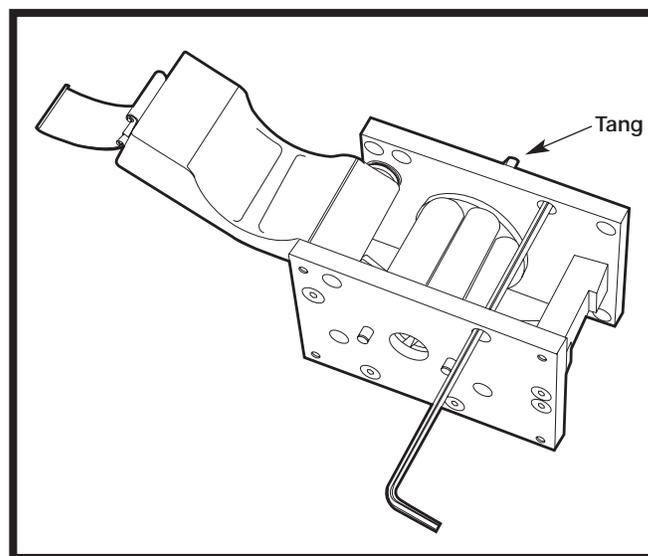

Figure 2, Pump Mounting
1. Connect the pump head to the drive by aligning the tang on the pump head (Figure 2) with the slot in the motor drive shaft and the dowel pins on the drive with the receiving holes on the pump head.